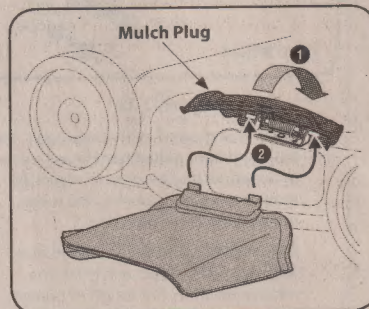

Figure 2-10
1. On the side of the mower, lift the mulch plug. See Figure 2-10.